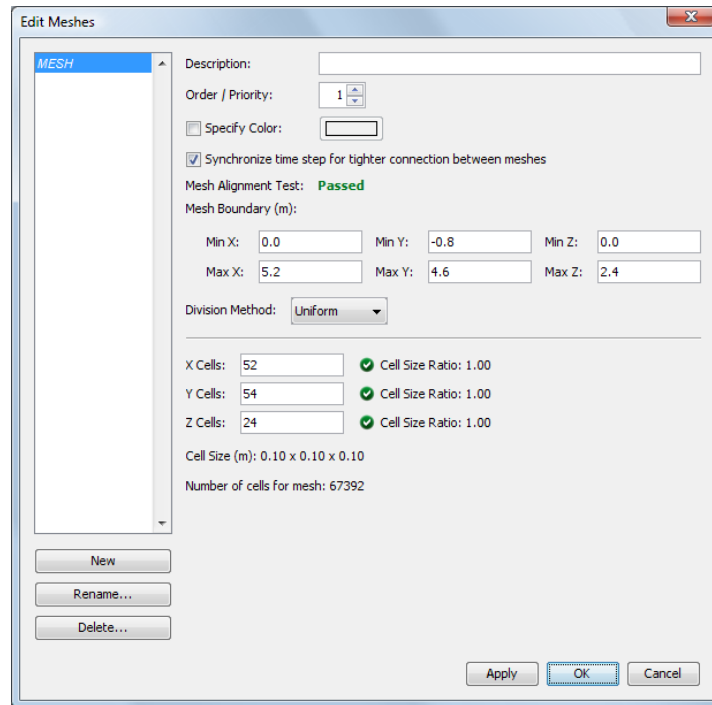

Figure 6.3. Creating the mesh
2. Click **New** and then **OK** to create a new mesh, see Figure 6.3.